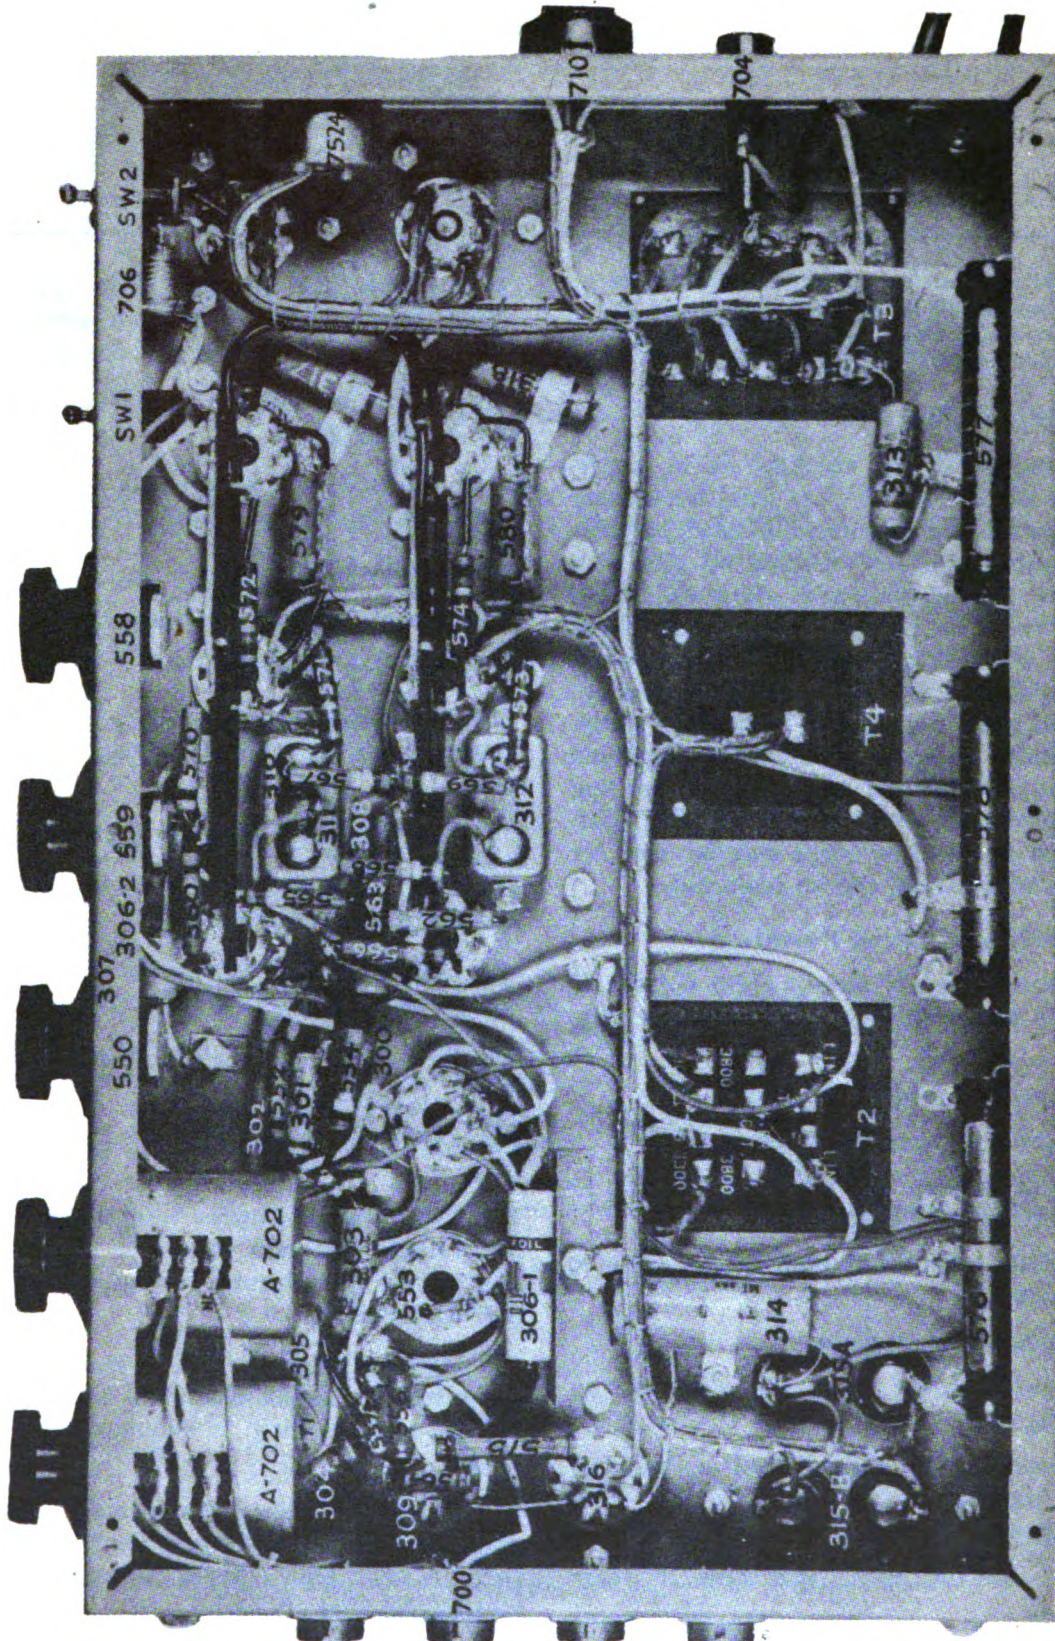

Figure 16. Public Address Set PA-1-F, amplifier, bottom view.
- (1) Remove the six screws from bottom of amplifier and remove the bottom plate (fig. 16).
- (2) Inspect all soldered joints.
- (3) Tighten all nuts and screws.
- (4) Check sliders on bleeder resistors to make sure of good contact.
- (5) Tighten pilot light bulb by screwing it in its socket.
- (6) Replace bottom plate.